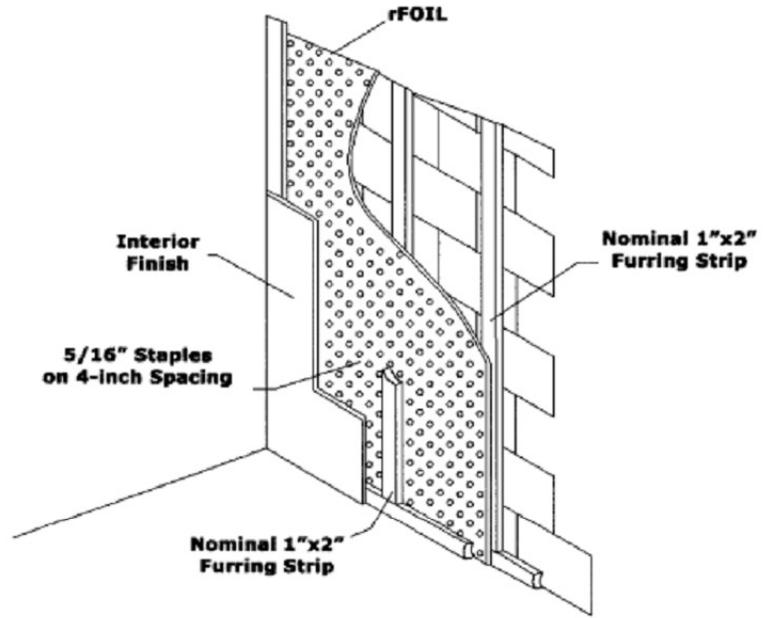

FIGURE 3—DOUBLE FURRED BLOCK WALL APPLICATION
**4.1.2.3 Furring Strip Block Wall Application:** The block wall assembly consists of nominal 1-by-2 furring strips attached vertically at a maximum of 16 inches (406 mm) on center to minimum 8-inch-thick (203 mm) block wall. The insulation is installed parallel to the furring strips using fasteners noted in Section 4.1 of this report. A second layer of 1-by-2 furring strips is placed over the insulation and directly over the existing furring strips using 11/4-inch-long (38 mm) nails. Minimum 11/2-inch-thick (12.7 mm) gypsum wallboard complying with ASTM C36 is attached over the furring strips in accordance with the applicable code to create two 33/4-inch (19 mm) air spaces. Inside surface-to-surface thermal resistance of the assembly is noted in Table 1 of this report. See Figure 3 of this report for an illustration of the assembly.